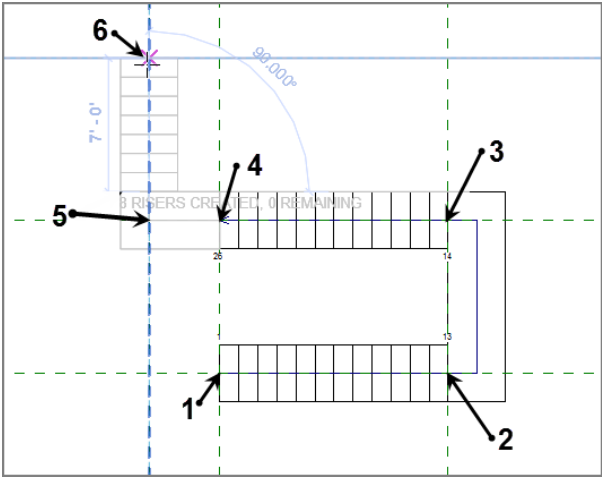

FIGURE 10.64: Picking the intersections of the reference planes to determine where the stairs will go
6. Draw your stairs as shown in Figure 10.64. (Pick the points as the figure is sequenced.)